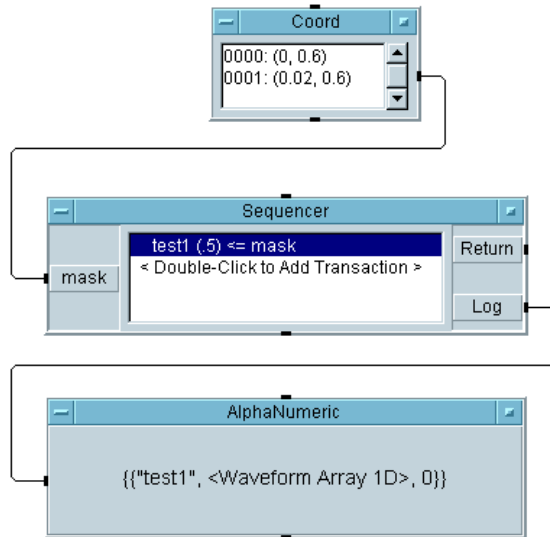

Figure 215 Comparing a Waveform to a Mask
- 8 Save the program as **seqdat3** and run it. It should look like Figure 215.